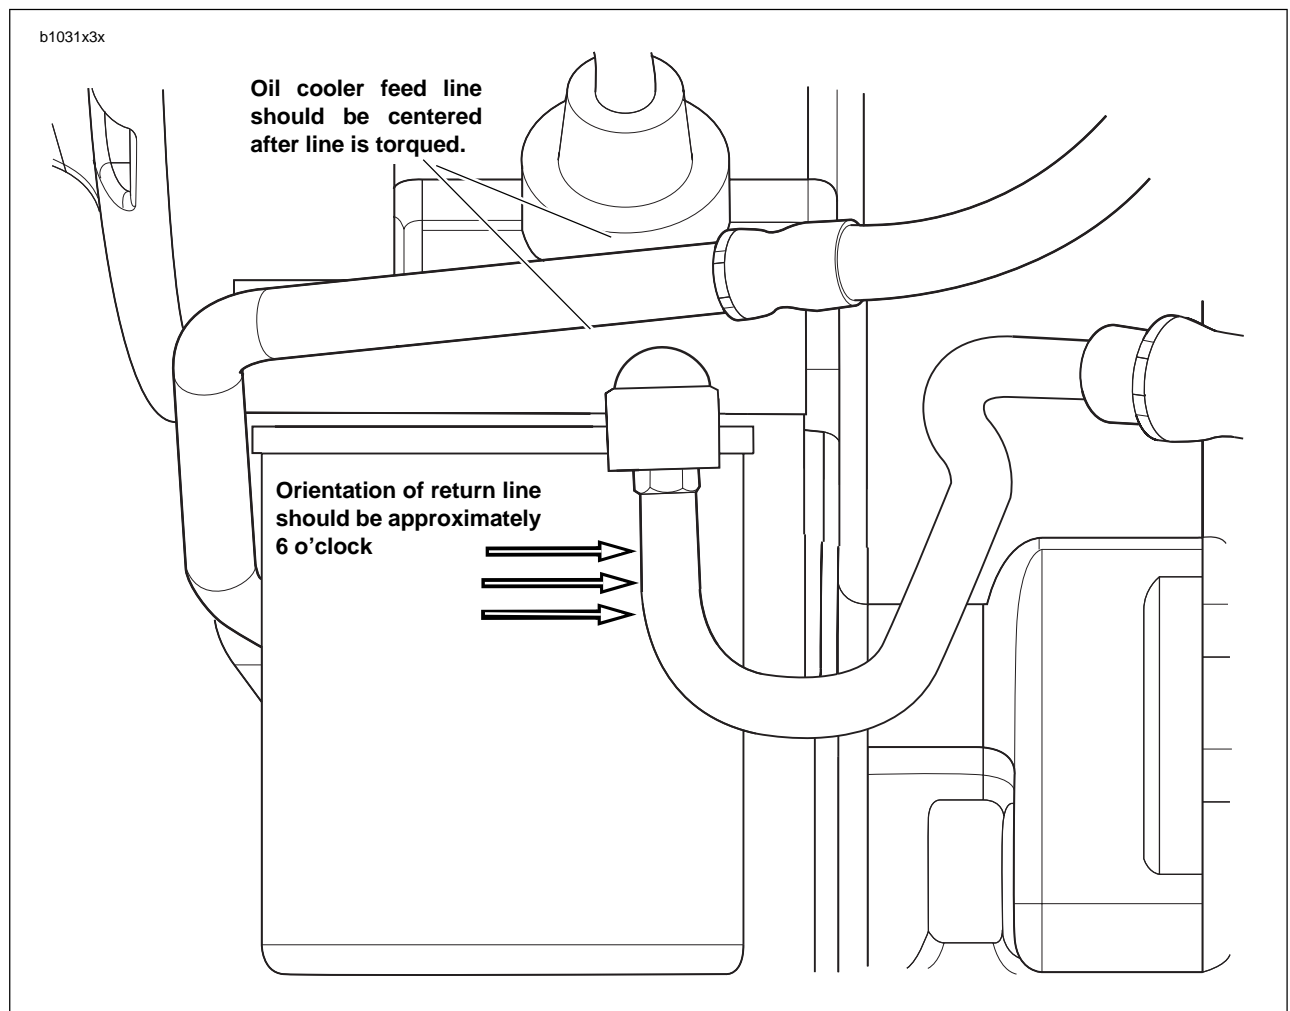

Figure 3-53. Oil Cooler Feed and Return Oil Lines Location and Orientation
31. See Figure 3-53. Install oil cooler oil feed line first at crankcase and tighten to 22-24 ft-lbs (29.8-32.5 Nm). Lightly coat the threads of the oil cooler fitting with clean H-D 20W50 engine oil. Wipe off any excess oil. Tighten feed oil line to 19-21 ft-lbs (25.8-28.5 Nm) at oil cooler making sure to center the oil line between the oil sending switch and the return oil line fitting on the crankcase.
See Figure 3-53. The orientation of the oil cooler return oil line where it enters the crankcase should be at approximately 6 o'clock to allow for proper alignment and clearance of other components on the vehicle.